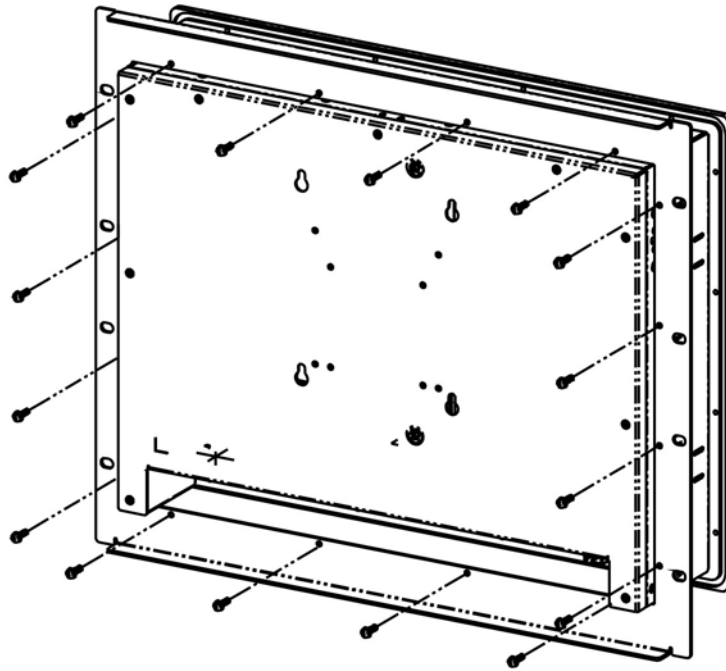

Figure 5-18: Secure the Cabinet/Rack Bracket
Step 4: Secure the cabinet/rack bracket to the monitor by inserting and tightening the retention screws (**Figure 5-18**).